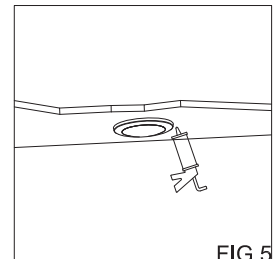

FIG.5
6. Place the Lens back and turn it clockwise to fix. (FIG.5)